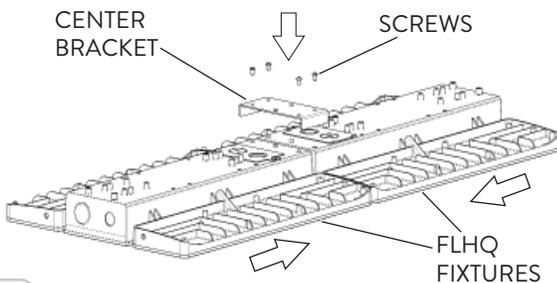

FIG. 15
- 1 The Conversion Kit converts two FLHQ - 130 / 210 fixtures into one fixture to reach the desired lumen output by aligning and fastening the Center Bracket to the top-ends of the two FLHQ fixtures (Fig. 15).